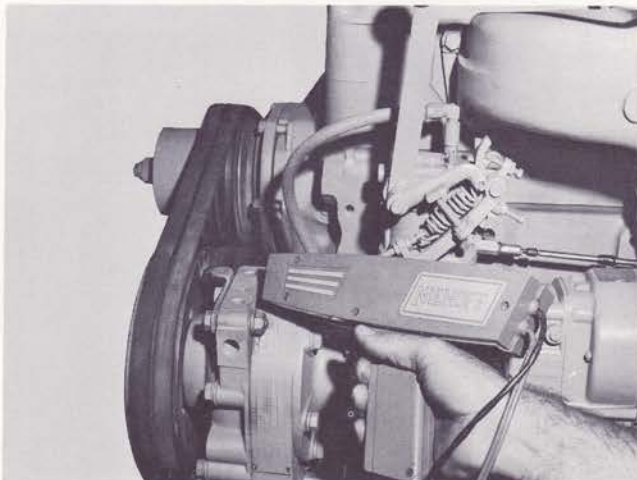

Fig. 4-6. Using timing light
5. Start engine and rotate "Mag-tronic" to obtain correct timing with timing light directed toward timing mark on accessory drive pulley and timing pointer. Fig. 4-6. Secure "Mag-tronic" in desired position.